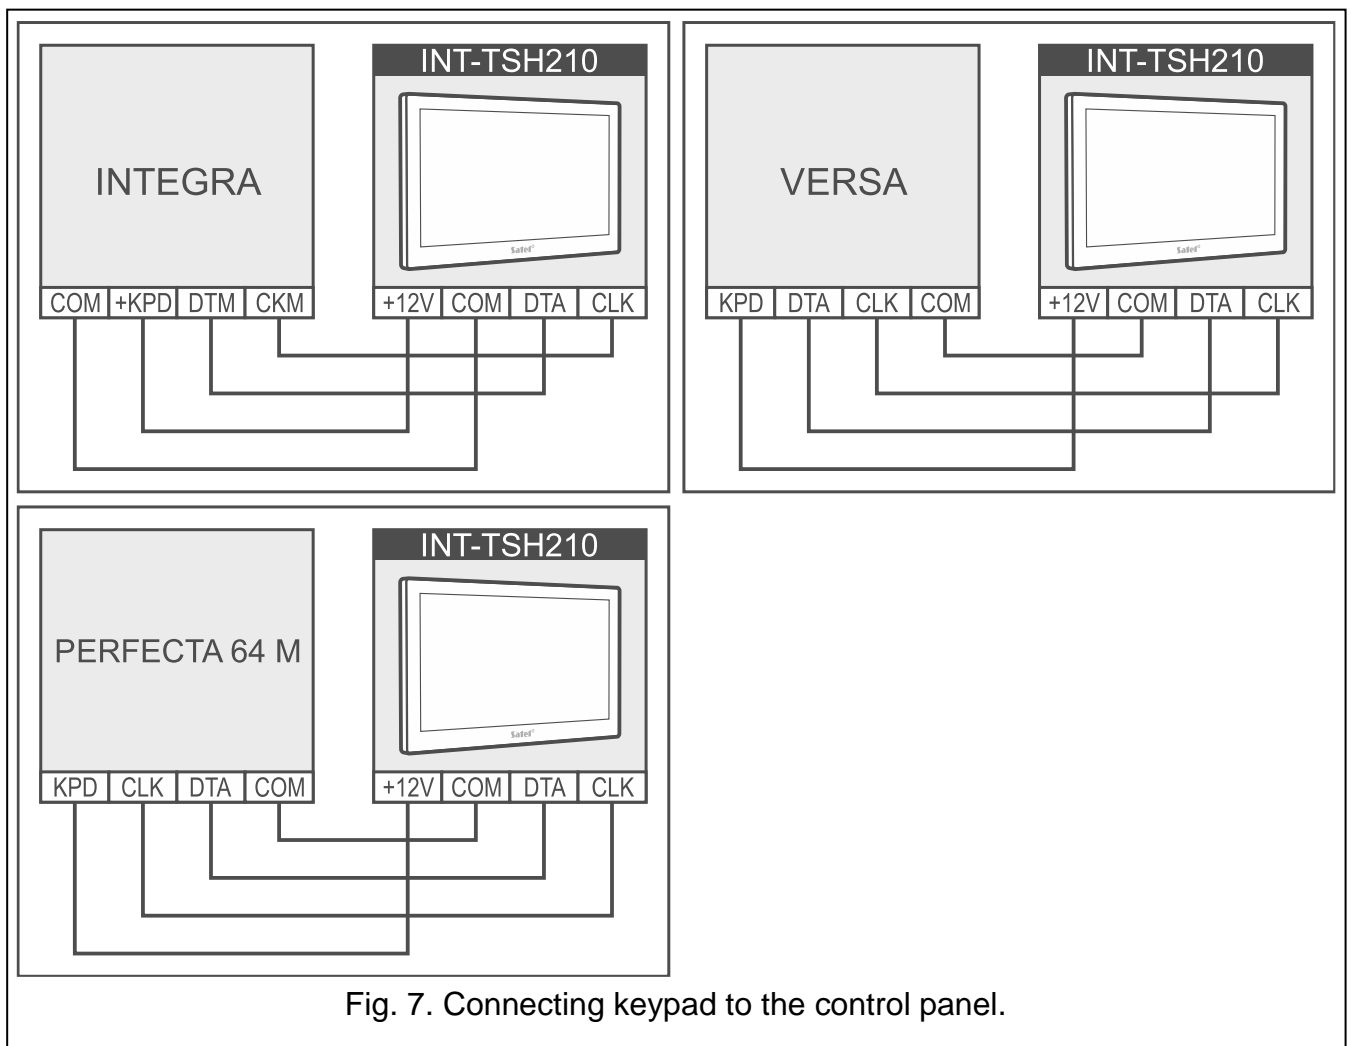

Fig. 7. Connecting keypad to the control panel.
1. Connect the DTA, CLK and COM keypad terminals to the terminals of the control panel communication bus (Fig. 7).